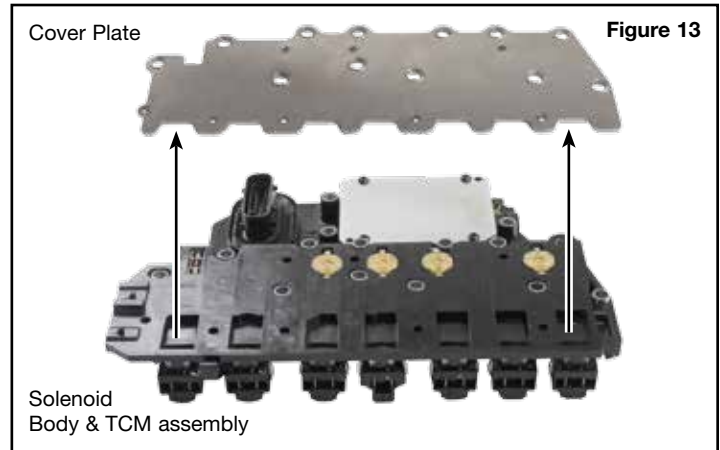

Figure 13
- a. Remove retaining screws and detach solenoid body cover plate (Figure 13).
- g. Reinstall solenoid body cover plate and secure with retaining screws (Figure 13).